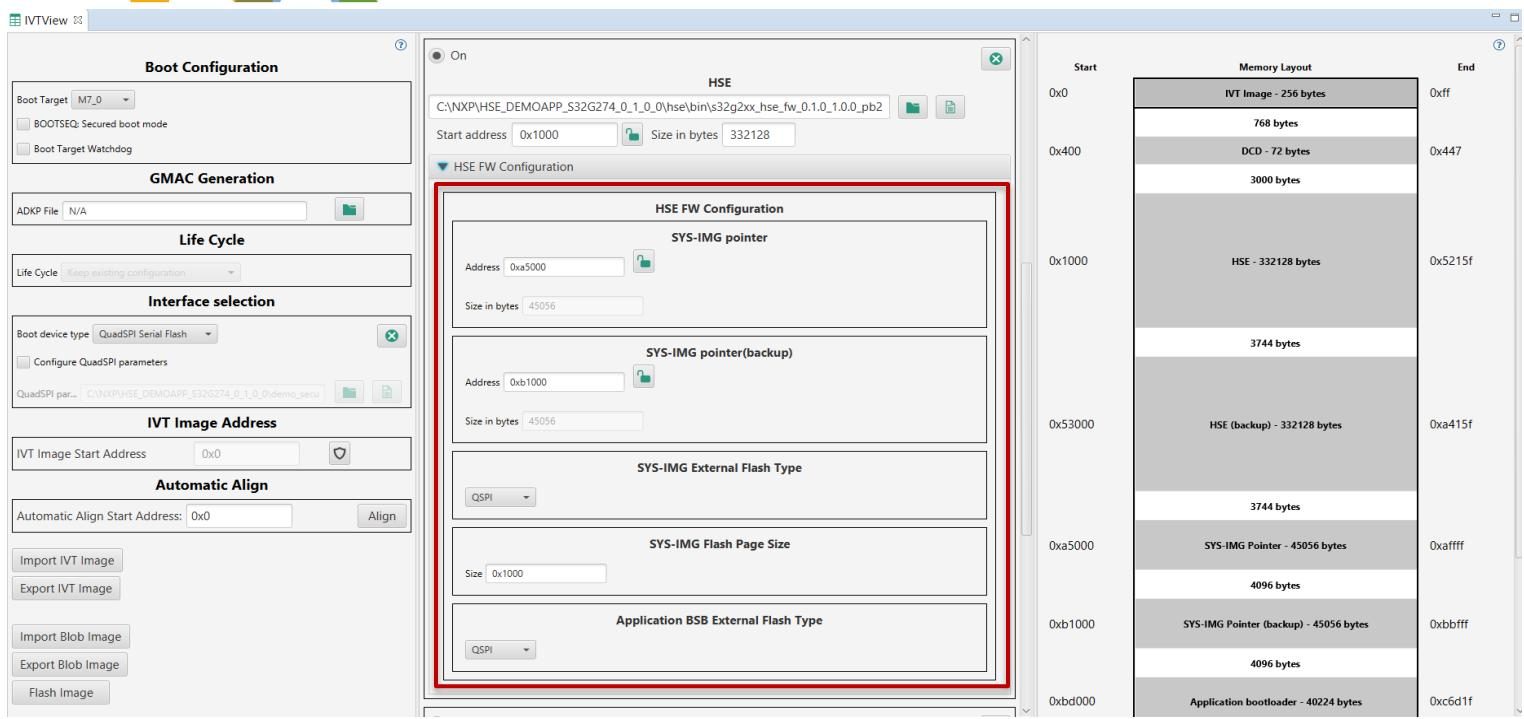

Figure 2 Fill HSE FW Configuration (step 3)
- 3) Fill in HSE FW Configuration information: expand *HSE FW Configuration* subsection under HSE and fill in the addresses for SYS-IMG pointer and backup, flash types (set to QSPI) and flash page size (for QSPI – 0x1000) – **Figure 2**. SYS-IMG pointers will reference a reserved space in blob (44KB each) which will be written at run-time by application after publishing it via HSE service. Address values example: 0xB5000 and 0xC1000;